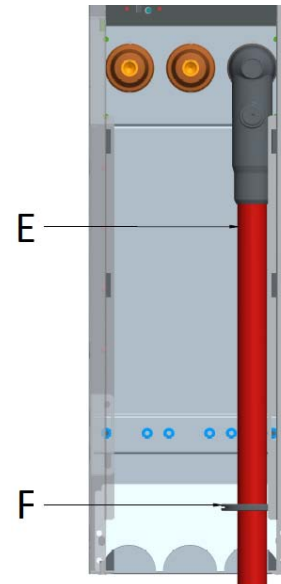

Figure 23: Assembly of the cable connection
- Use a sharp knife to make a number of cuts in the transit rubber (Figure 23 F.)
- Assemble the cable connection (Figure 23 E) according to the supplier's installation instructions.
- Slide the transit rubber (Figure 23 F) over the cable at the proper height.